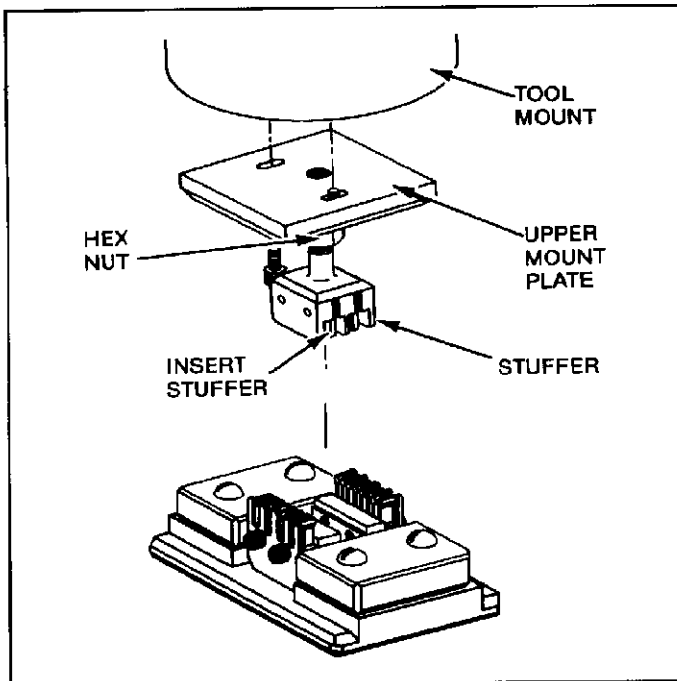

Fig. I-2
I-2. DESCRIPTION (Figure I-2)
2. Attach the upper tooling to the pneumatic unit using the two 4-40 by .375-in.-long socket head cap screws. See Figure I-2. Do NOT tighten screws completely at this point.